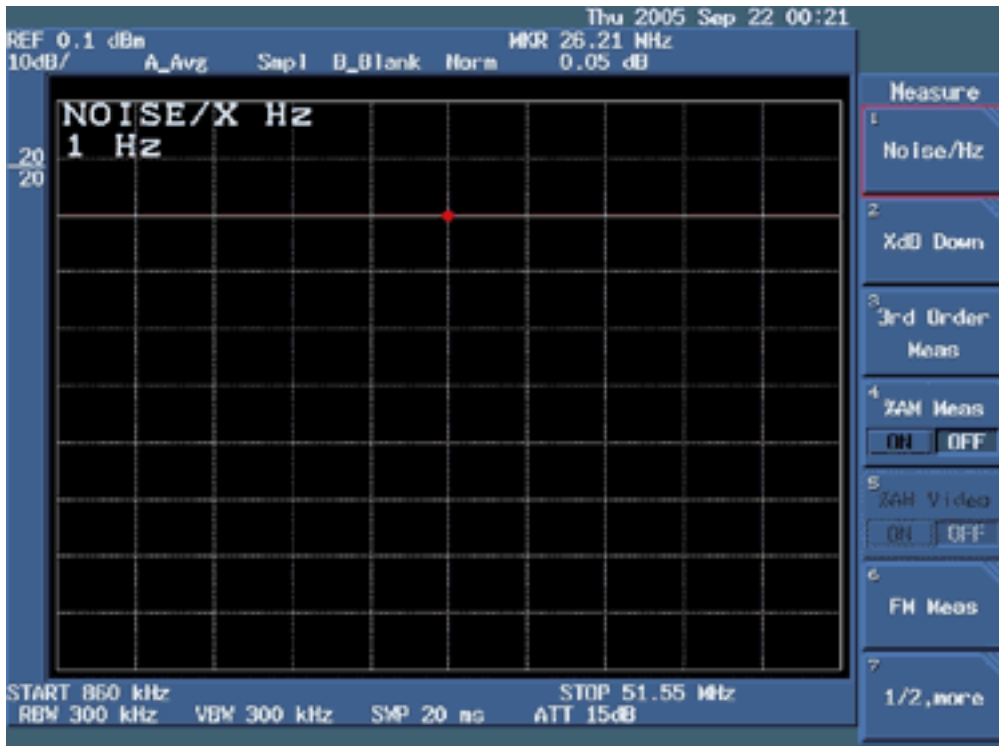

Figure 7. Selecting Noise/Hz for return loss measurement setup.
2. Press soft key #1 (**Noise/Hz**) as shown in **Figure 7**.